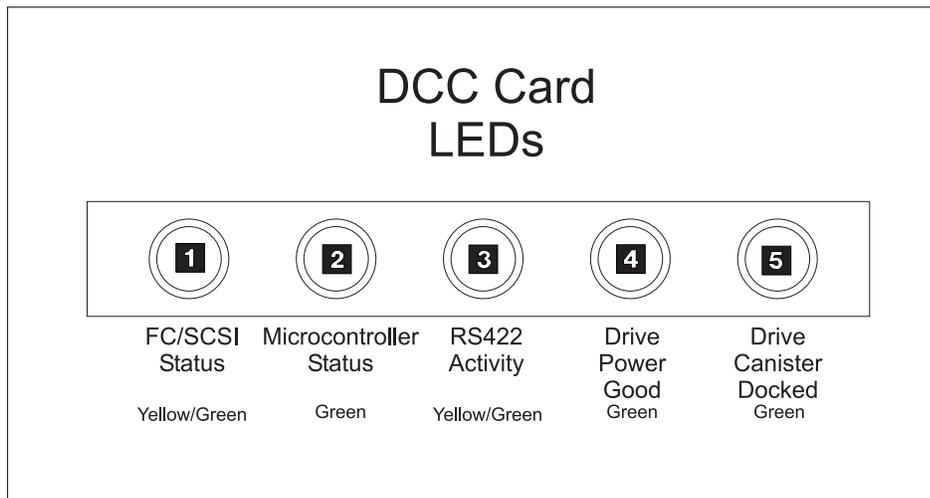

Figure 87. Drive Canister LED Displays
Each hot-swap drive canister and control port canister has a row of LEDs at the rear of the device. Figure 87 depicts the layout of the LEDs, and Figure 87 highlights the information you can learn from the LEDs. You can determine at a glance if a device is functioning correctly. If you determine that a service check points to a problem, consult with your customer before disrupting the job stream.
2. See Figure 87. View the LEDs on the rear of the canister. Locate the meanings of the LEDs in Table 61. The LEDs will mean something different for LTO SCSI, DLT SCSI, and LTO fibre drives.